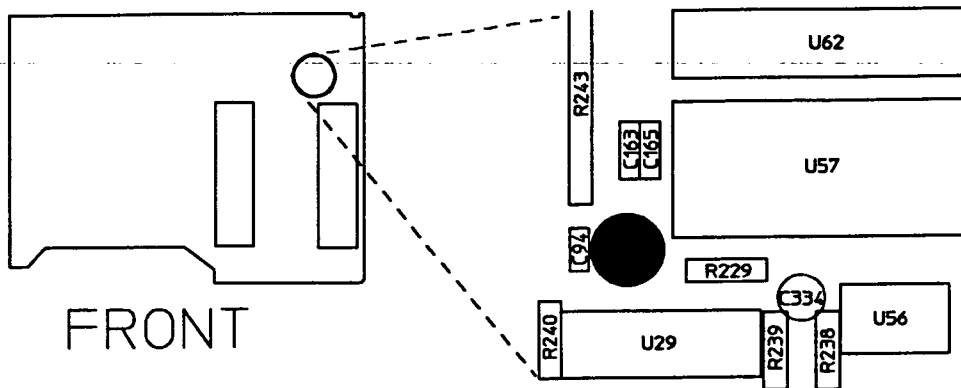

Figure 2-13. A1C121 Adjustment Location
9. The location of A1C121 is shown in figure 2-13.